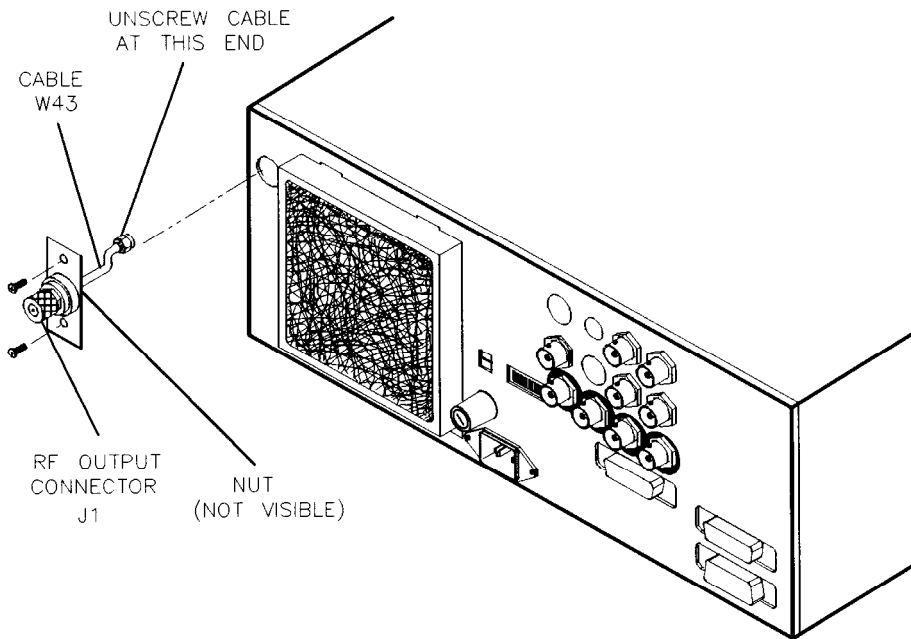

Figure 7-22. Removing RF Output Connector
1. Disconnect cable W43 at bridge detector A30. Refer to Figure 7-22.